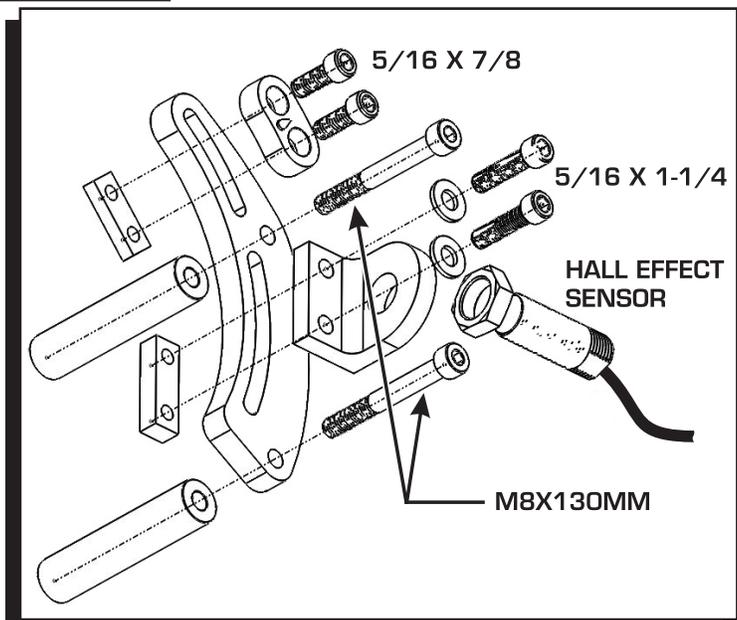

Figure 1. Pickup Bracket Assembly.
1. Mount the pickup holder and pointer assembly onto the bracket using the two 5/16x1 1/4" bolts and two 5/16 x 7/8" bolts. (Figure 1). This kit was designed to be mounted on the driver side of the damper.